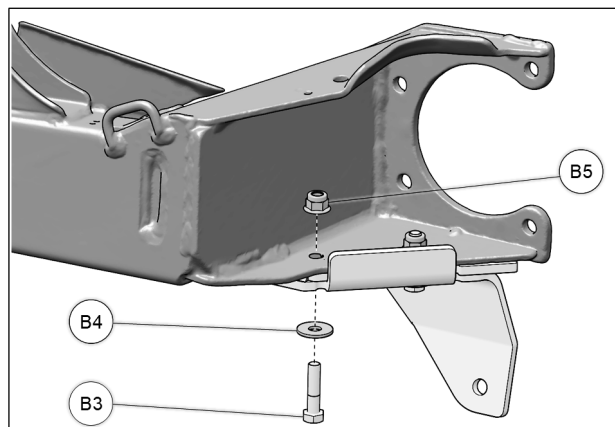

Fig. 7
7. From the bottom, insert a M8x35mm bolt (**B3**) with washer (**B4**) through newly drilled hole, and secure with provided M8 nut (**B5**). Tighten to 40 N•m [37 lb•ft]. See Fig. 7